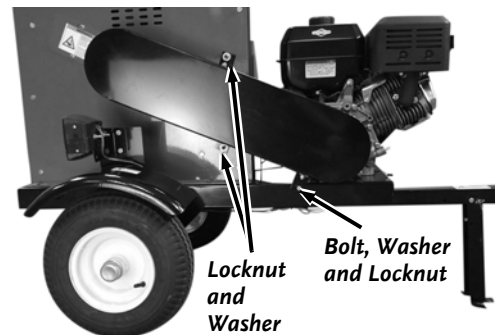

Figure 42
1. Remove the Bolt, Washer and Locknut that attaches the lower portion of the Guard to the Base using two 1/2" Wrenches (**Figure 42**).